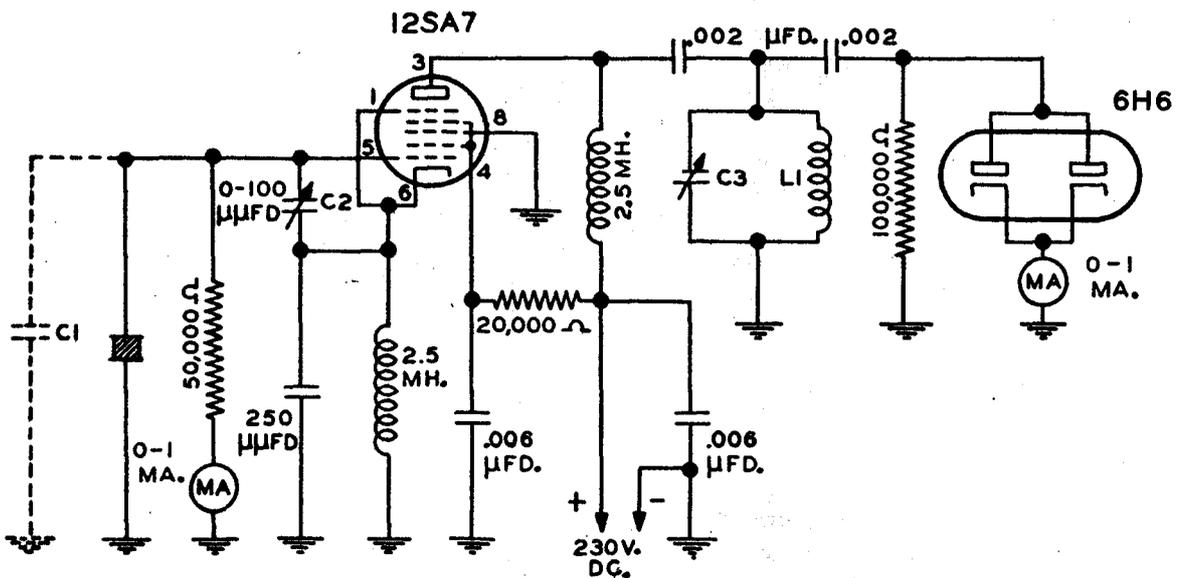

Fig. 24 Receiver—Typical Crystal Oscillator Circuit (Dwg. No. 780A)
5.5.4. The circuit shown on Figure 24 should be employed in testing and calibrating replacement quartz crystals for operation in the crystal oscillator circuit of the receiver unit of the Navy Model TCS Series Radio Equipment. The following procedure must be used in the adjustment of the circuit.